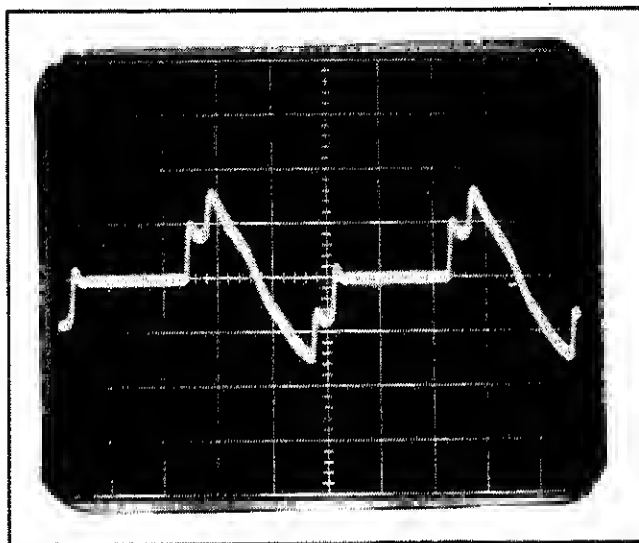

Figure 4-8. LED LOOP CURRENT WAVEFORM
- g. Adjust C162 LED LOOP BANDWIDTH so that the current channel waveform is 30 mA pp between the positive and negative peaks. The waveform should appear as shown in Figure 4-8.